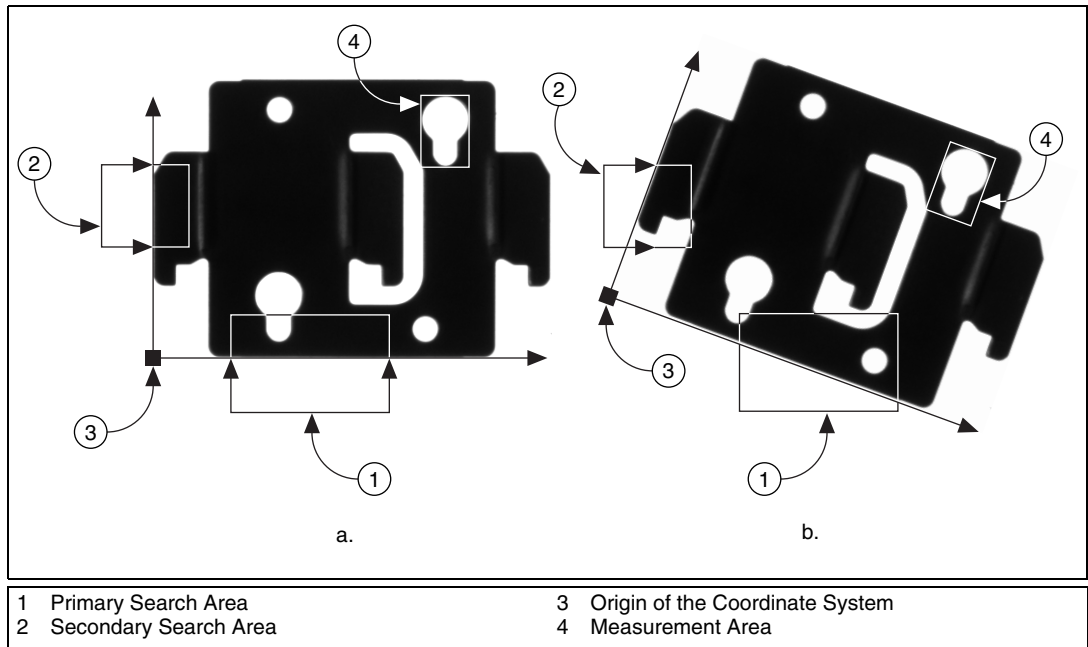

Figure 5-3. Locating Coordinate System Axes with Two Search Areas
- b. If you use IMAQ Find CoordSys (2 Rects), specify two rects, each containing one separate, straight boundary of the object, as shown in Figure 5-3. The boundaries cannot be parallel. The regions must be large enough to include the boundaries in all the images you want to inspect.